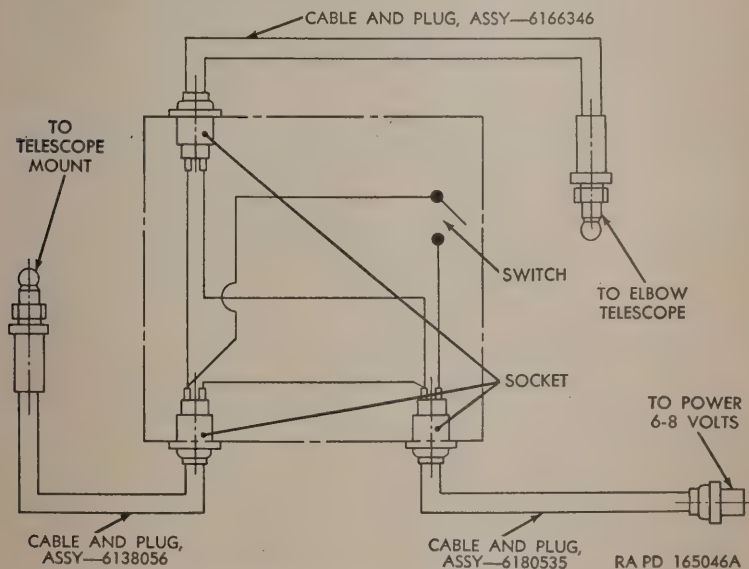

Figure 72.—Telescope mounts M52C and M52D—wiring diagram for lighting switch cover assembly.
d. Connect and securely solder the leads from the sockets and switch as indicated in the wiring diagram (fig. 72). Use No. 18 switchboard flexible wire. When finished soldering, clean all traces of soldering flux from the solder leads with alcohol.